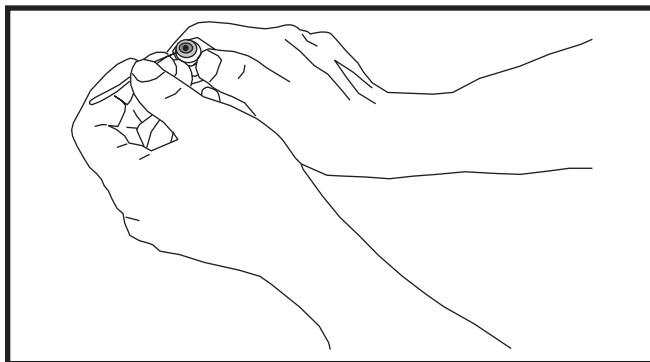

Figure 3. Removal of Orifice
2. Insert a light-gauge wire hook between the valve body and the restrictor orifice while being careful not to scratch either part. Carefully remove the restrictor orifice from the valve body. See Figure 3.